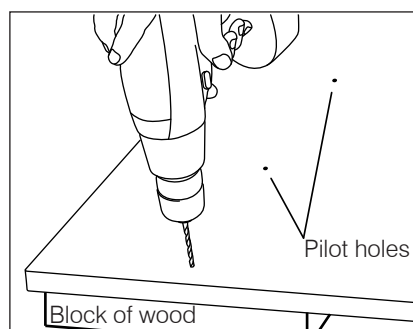

Figure 1
- Carefully drill any holes using a clamped block of wood to protect the front of the door/drawer - See fig. 1.